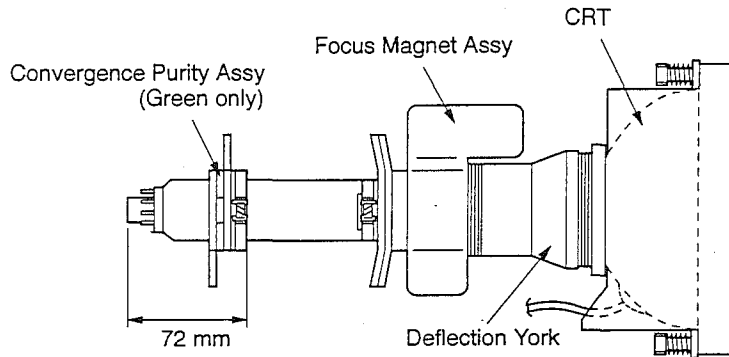

Fig. 5-4
4. Install the Deflection York in place. (Fig. 5-4)